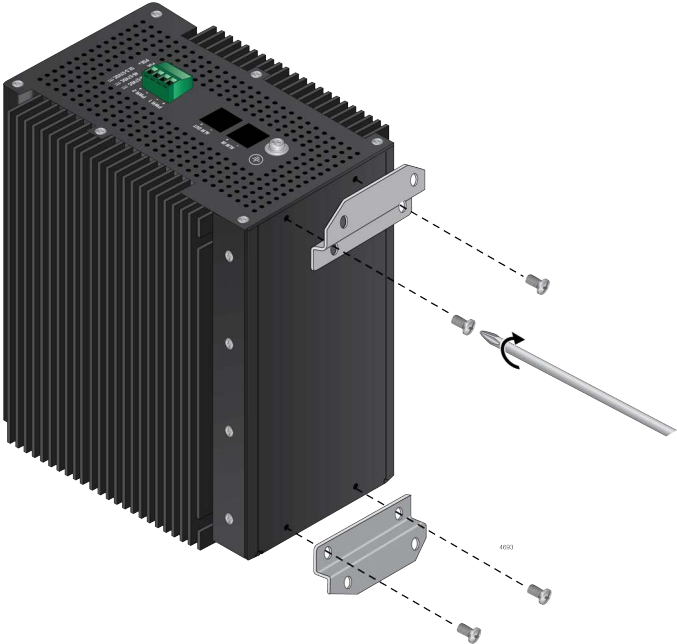

Figure 31. Installing the Wall Brackets on the Switch
- 4. Install the two wall brackets to the back panel of the switch, with the four screws included with the unit. Refer to Figure 31.
4. Install the two brackets that come with the switch to the back panel of the unit. Refer to Figure 31 on page 79.